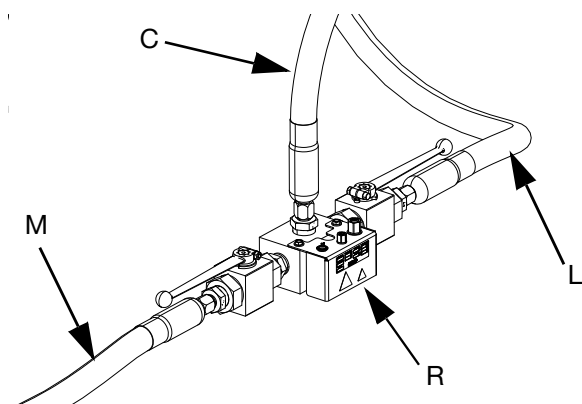

FIG. 20
- c. Connect Tandem Hose 1 (L) and Tandem Hose 2 (M) from the supply system to the Tandem Block (R). See FIG. 20.
- d. Connect Supply Hose 1 (C) to the Tandem Block (R). See FIG. 20.